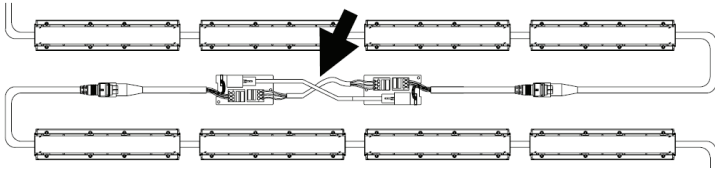

Figure 23: Extending the link
2. See Figures 23 and 24. If you need to extend the distance between fixtures, either insert a Tripix Extension Cable or use both a CAT5e cable and power cable (arrowed) in Tripix Cable Adapters.